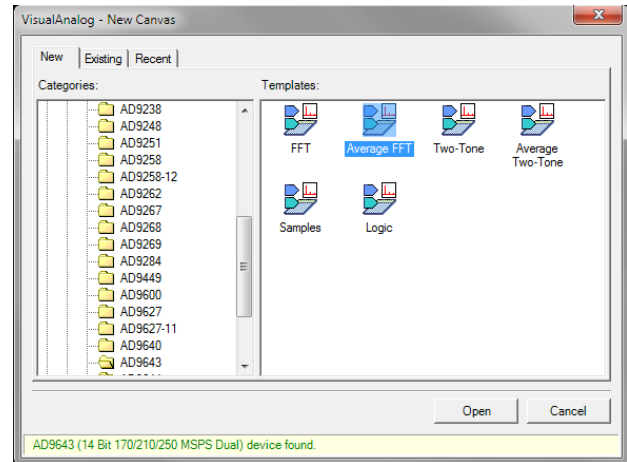

Figure 4. VisualAnalog, New Canvas Window
1. Open VisualAnalog® on the connected PC. The appropriate part type should be listed in the status bar of the **VisualAnalog - New Canvas** window. Select the template that corresponds to the type of testing to be performed (see Figure 4 where the AD9643 is shown as an example). The AD9643 is given as an example in this user guide. Similar settings are used for the AD9613. For the AD6649 and AD6643, the differences are noted where necessary in the steps that follow.